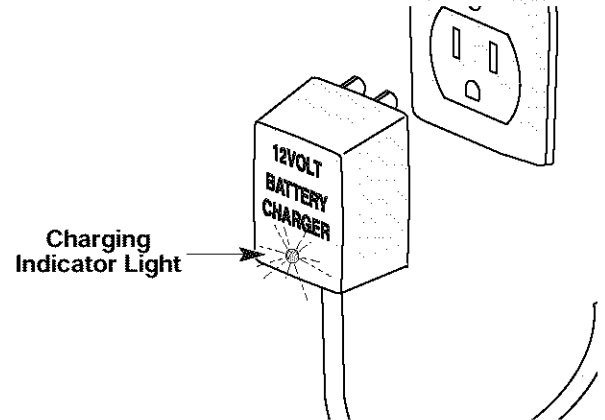

Fig. 5
2. When the red indicator light on the charger is on, the battery is being charged (Fig. 5). If the light fails to come on, check that:
3. Charge the battery until the Charging Indicator Light on the charger turns from red to green (Fig. 5).